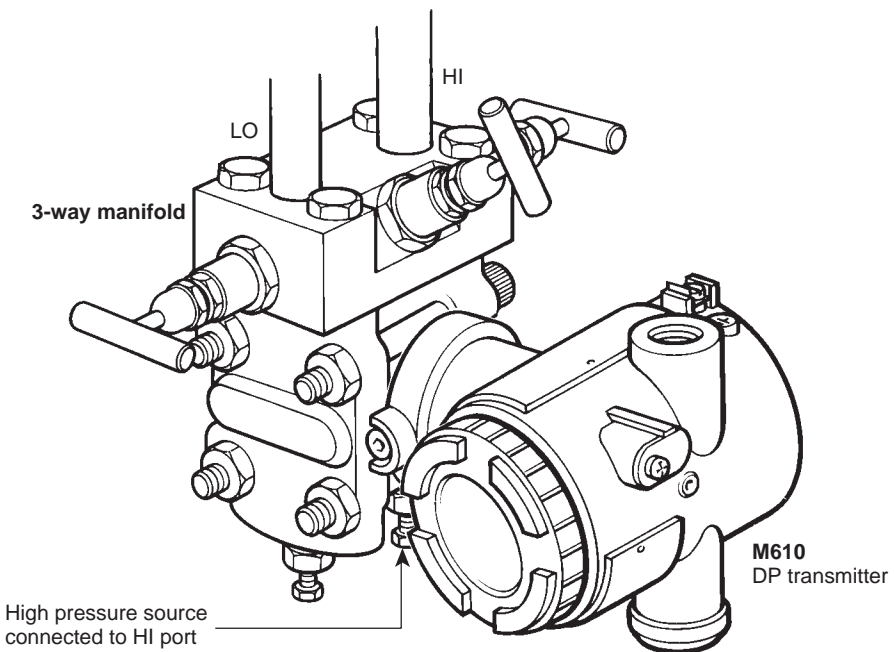

Fig. 17
- 7.2.8 Using a suitable precision pressure source attached to the HI pressure port of the DP transmitter as shown in Figure 17, apply a pressure corresponding to the set pressure of the unit. (For ILVA flowmeters, this is normally factory set to 498 mbar/200 inches water gauge).